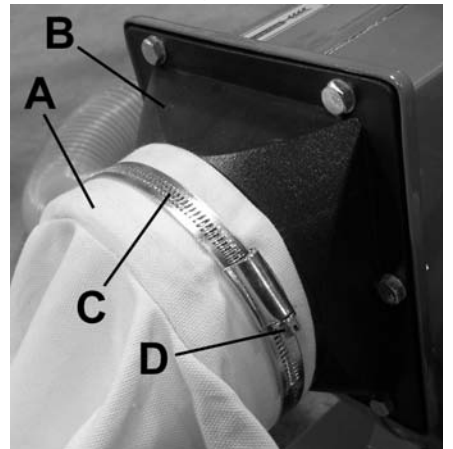

Figure 2
Attach the collector bag (A) Fig.2 to the outlet (B) with dust bag clamp (C), fix into place by tightening screw (D) on dust bag clamp.